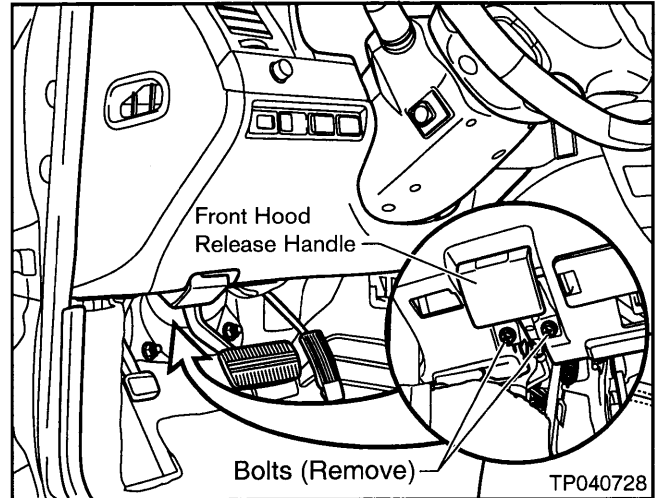

Figure 8
- a. Remove the two Bolts that secure the Front Hood Release Handle (see Figure 8).